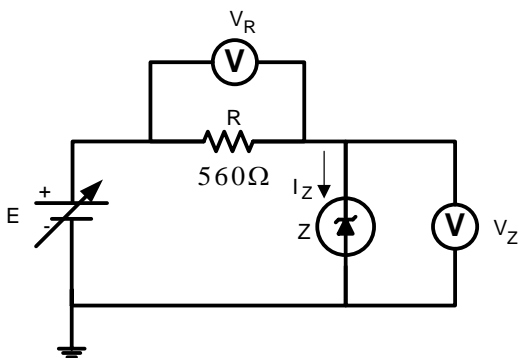

Fig 3.4
1. Connect the circuit as shown in Fig 3.4. Initially set the DC supply to 0V.
2. Set the DC supply (E) to the values appearing in Table 3.1 and measure both  $V_Z$  and  $V_R$ . You may have to use the milli-volt range of your DMM/scope for low values of  $V_Z$  and  $V_R$ .